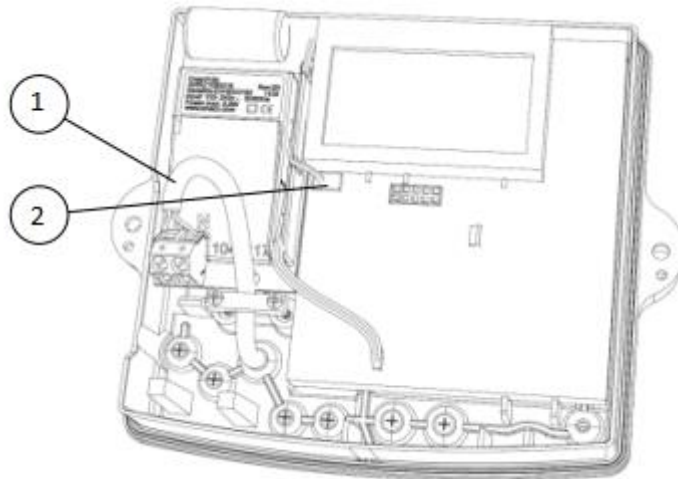

Figure 2: Connecting the power supply
Use a 2-wire cable with cable area 1-1.5 mm² to connect the power supply. The outer diameter of the cable (1) should be in the range of 4.5 to 9 mm and approved for the intended environment. Strip the cable and connect it to the screw terminal. Tighten the strain relief and connect the Itron power connector (2) to the CF 51/55/ECHO II. Figure 2 illustrated what the end-result should look like.